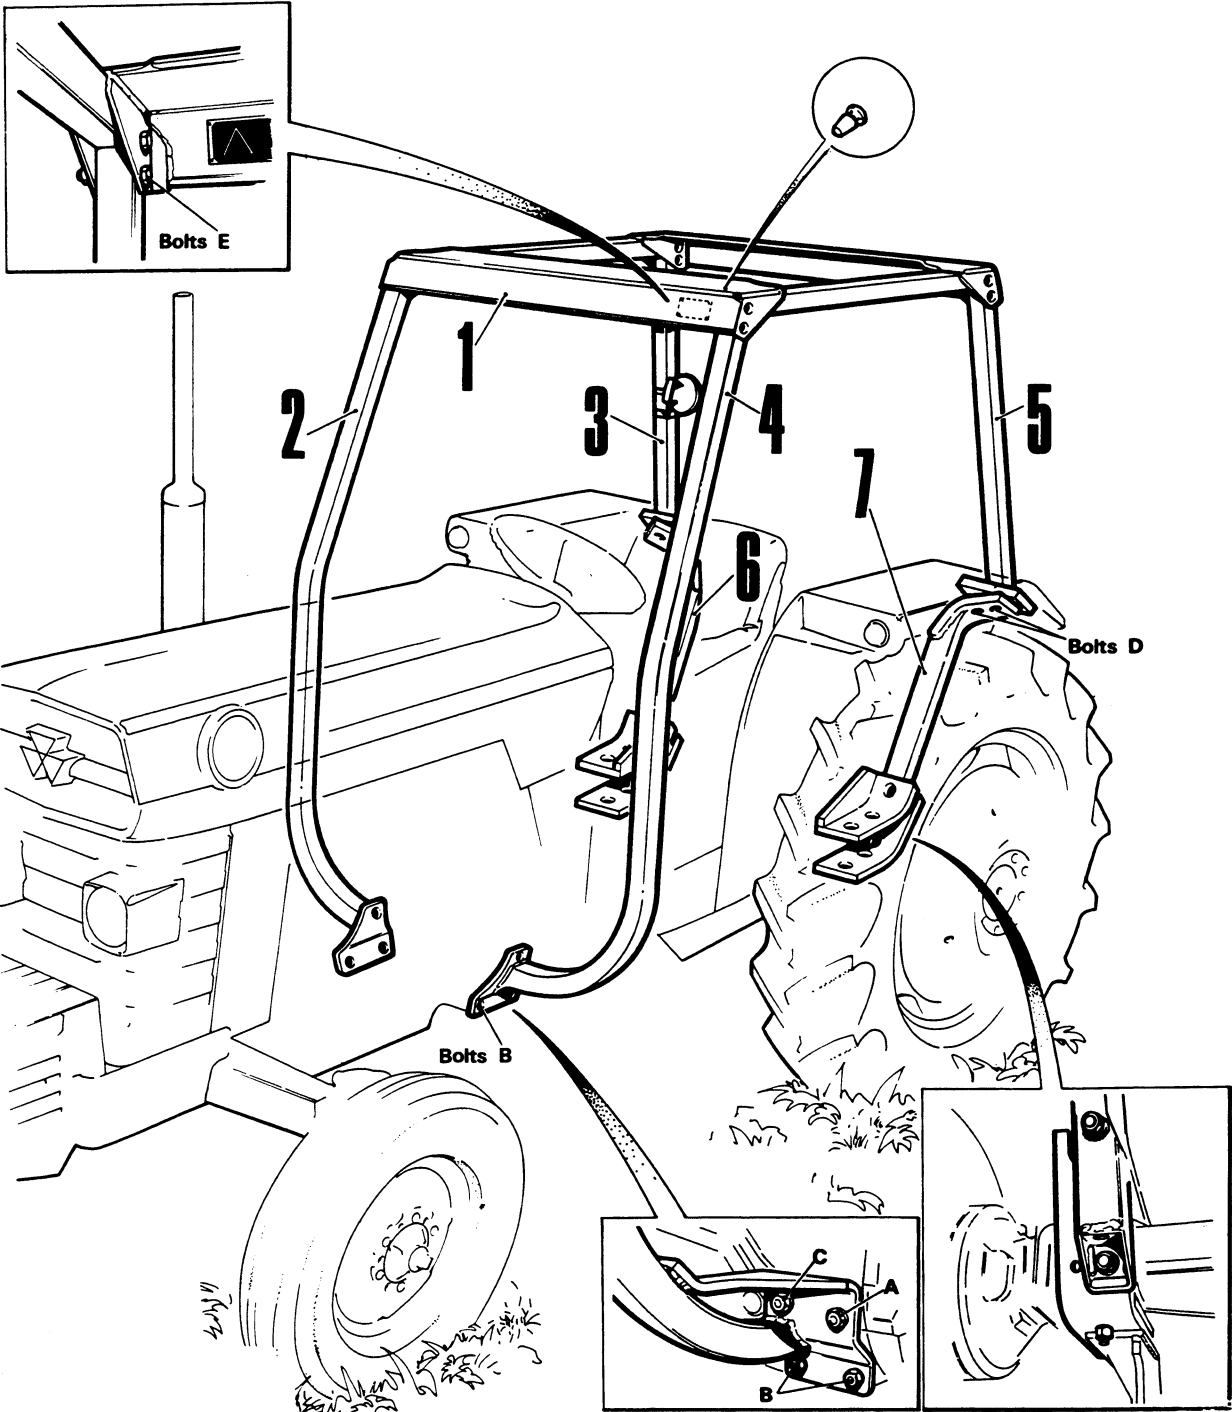

FIG. 1
New Tractors Fig. 1
Assembly Method (Figs. 1 and 2)
- 4. Attach each front strut (2 & 4 Fig. 1) to the transmission housing using three 3/8 UNC x 44,5 mm (1 3/4 in) bolts and 3/8 lockwashers.